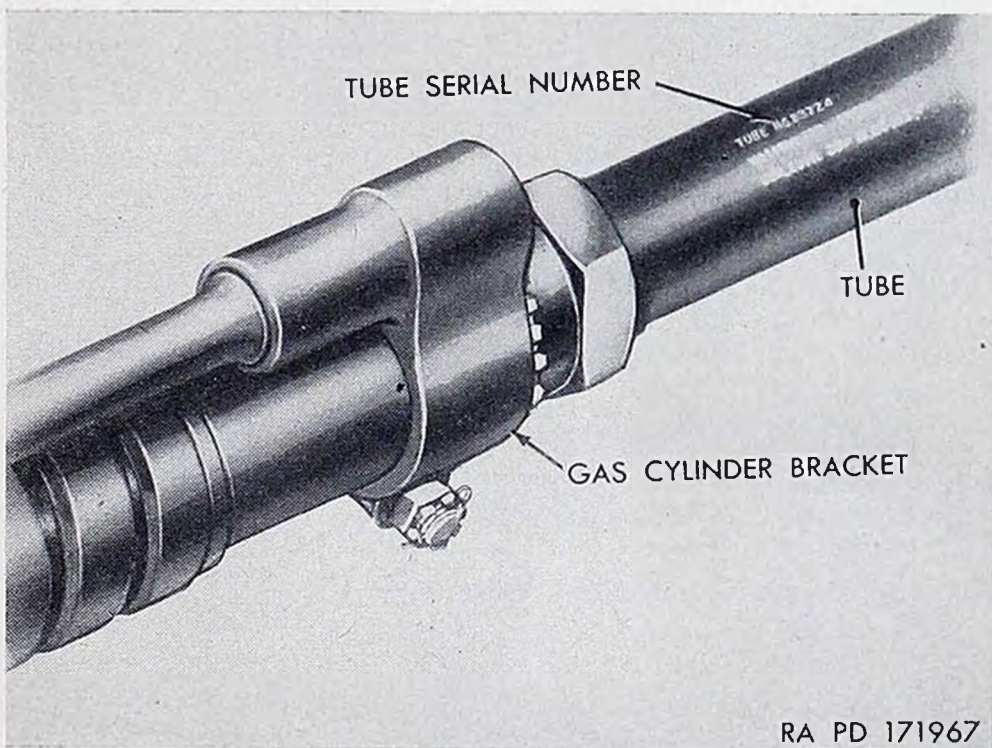

Figure 17. Location of serial number on gun tube.
c. The serial number of the tube is stamped on the tube in front of the gas cylinder bracket (fig. 17).